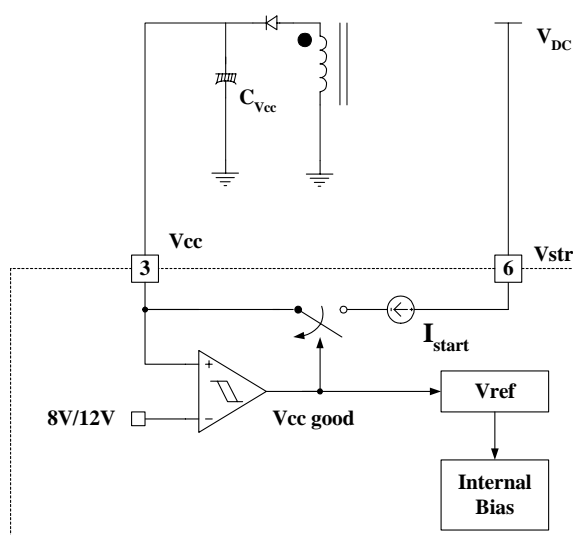

Figure 4. Internal startup circuit
**1. Startup** : In previous generations of Fairchild Power Switches (FPS™) the Vcc pin had an external start-up resistor to the DC input voltage line. In this generation the startup resistor is replaced by an internal high voltage current source. At startup, an internal high voltage current source supplies the internal bias and charges the external capacitor ( $C_{Vcc}$ ) that is connected to the Vcc pin as illustrated in Figure 4. When Vcc reaches 12V, the FSDM07652RB begins switching and the internal high voltage current source is disabled. Then, the FSDM07652RB continues its normal switching operation and the power is supplied from the auxiliary transformer winding unless Vcc goes below the stop voltage of 8V.